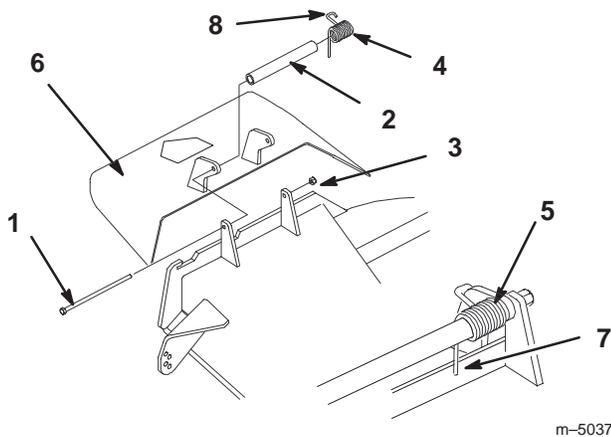

Figure 67
- Remove the locknut, bolt, spring and spacer holding the deflector to the pivot brackets (Fig.67). Remove damaged or worn grass deflector.
Note: Make sure the straight end of spring is installed behind deck edge before installing the bolt as shown in figure 67.
- Install bolt and nut. Place hook end of spring around grass deflector (Fig. 67).